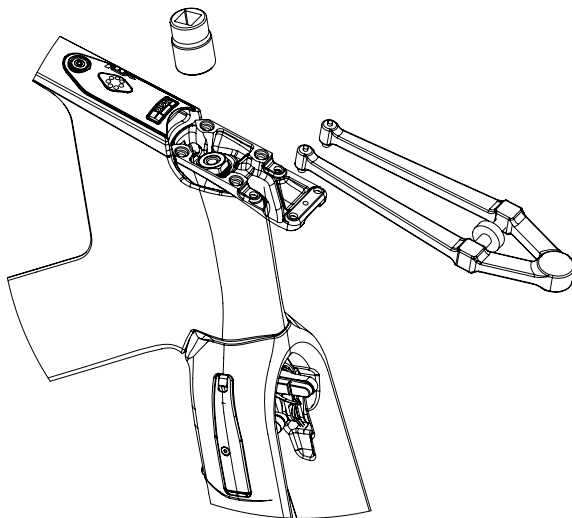

Fig. 11
- 1- Hold the fork so that it does not fall and undo the stem clamp nut **⑥** using an 18 mm hex socket. Put the nut aside.
- 2- If this is the first assembly withdraw the red plastic part **⑤**.
- 3- Insert the bottom part of the stem **①** onto the fork, checking that the headset is correctly installed. Ensure that you pass the rear brake cable out through the oblong hole in the stem.
- 5- Put the nut back and tighten the screw to **55 Nm** torque. This operation needs the fork locked, use a pin wrench (fig.11) that you insert into the holes in the stem used for fixing the bar. During tightening the key system allows self-alignment of the stem with the fork.